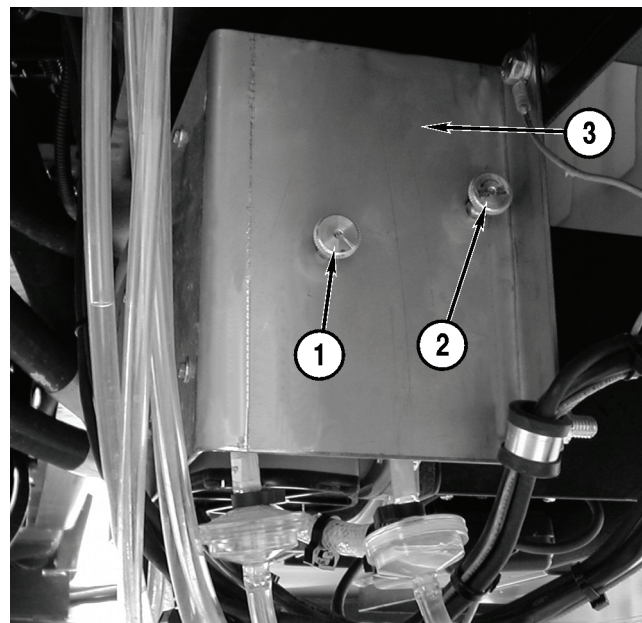

Figure 4-35
2. To adjust the foam quality, open the soap injection valve (**Figure 4-35, 1**) by turning the knob counterclockwise. Adjust the foam quality until foam is rich and thick.
3. To adjust the total foam output, open the output valve (**Figure 4-35, 2**) by turning the knob counterclockwise. Adjust as needed.
NOTE: The water pump and air compressor are located behind this panel (**Figure 4-35, 3**), on the back side of the hydraulic tank.